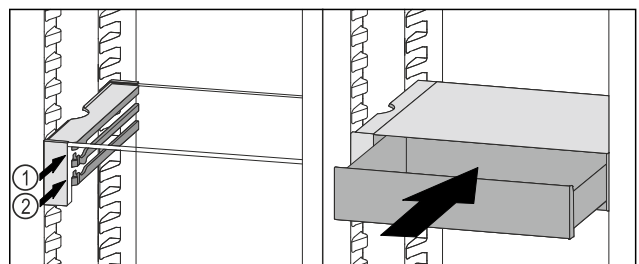

Fig. 101
- ▶ Place the VarioSafe drawer behind the stoppers on desired rib *Fig. 101 (1)* or *Fig. 101 (2)*.